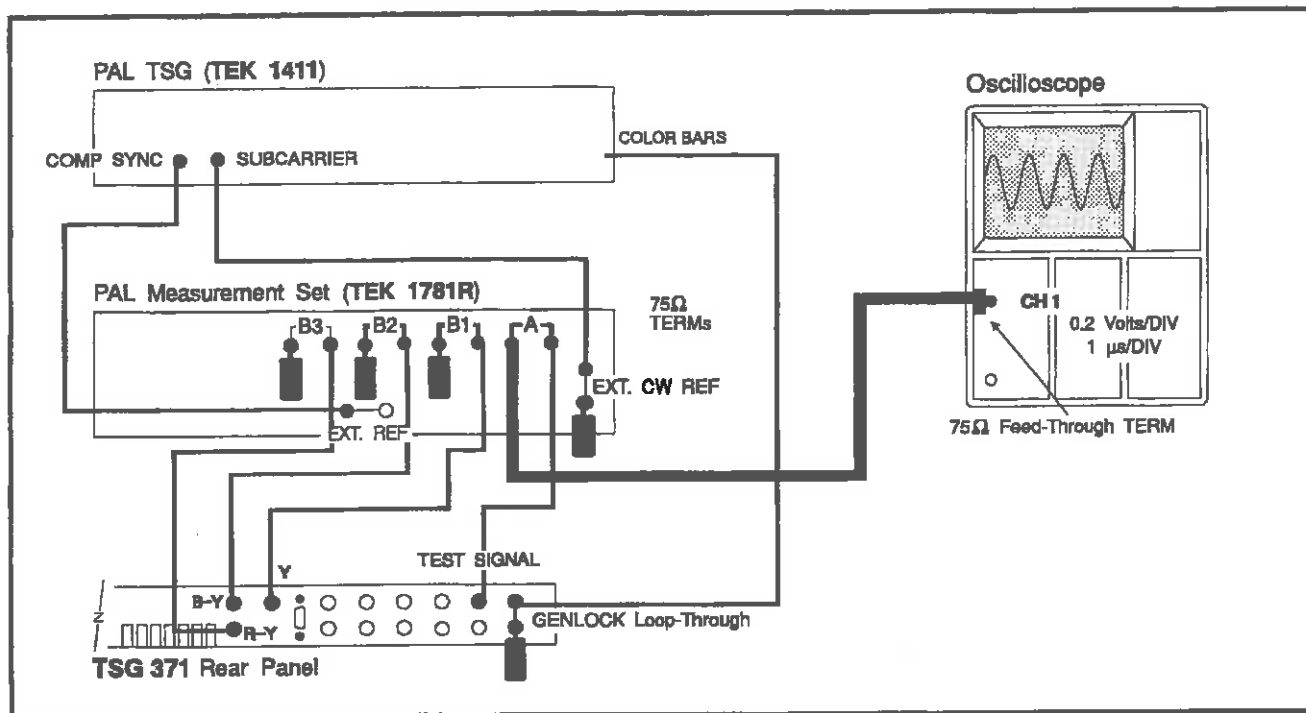

Fig. 5-19 Checking C/Y Gain of Test Signal.
- Connect an oscilloscope to the CH A loop-through of the 1781R as shown in Fig. 5-19.